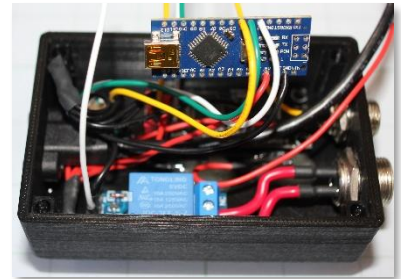

Figure 21
Next, run the three wires from the Rotary Encoder and solder them to the microcontroller as follows: the CLK or (B) white wire to pin 2, the DT or (A) green wire to pin 3, and the switch yellow wire to pin 4 as per the illustration in Figure 21. Use wiring diagram #5 from the course (also included Appendix A) as a reference if unsure of your connections.